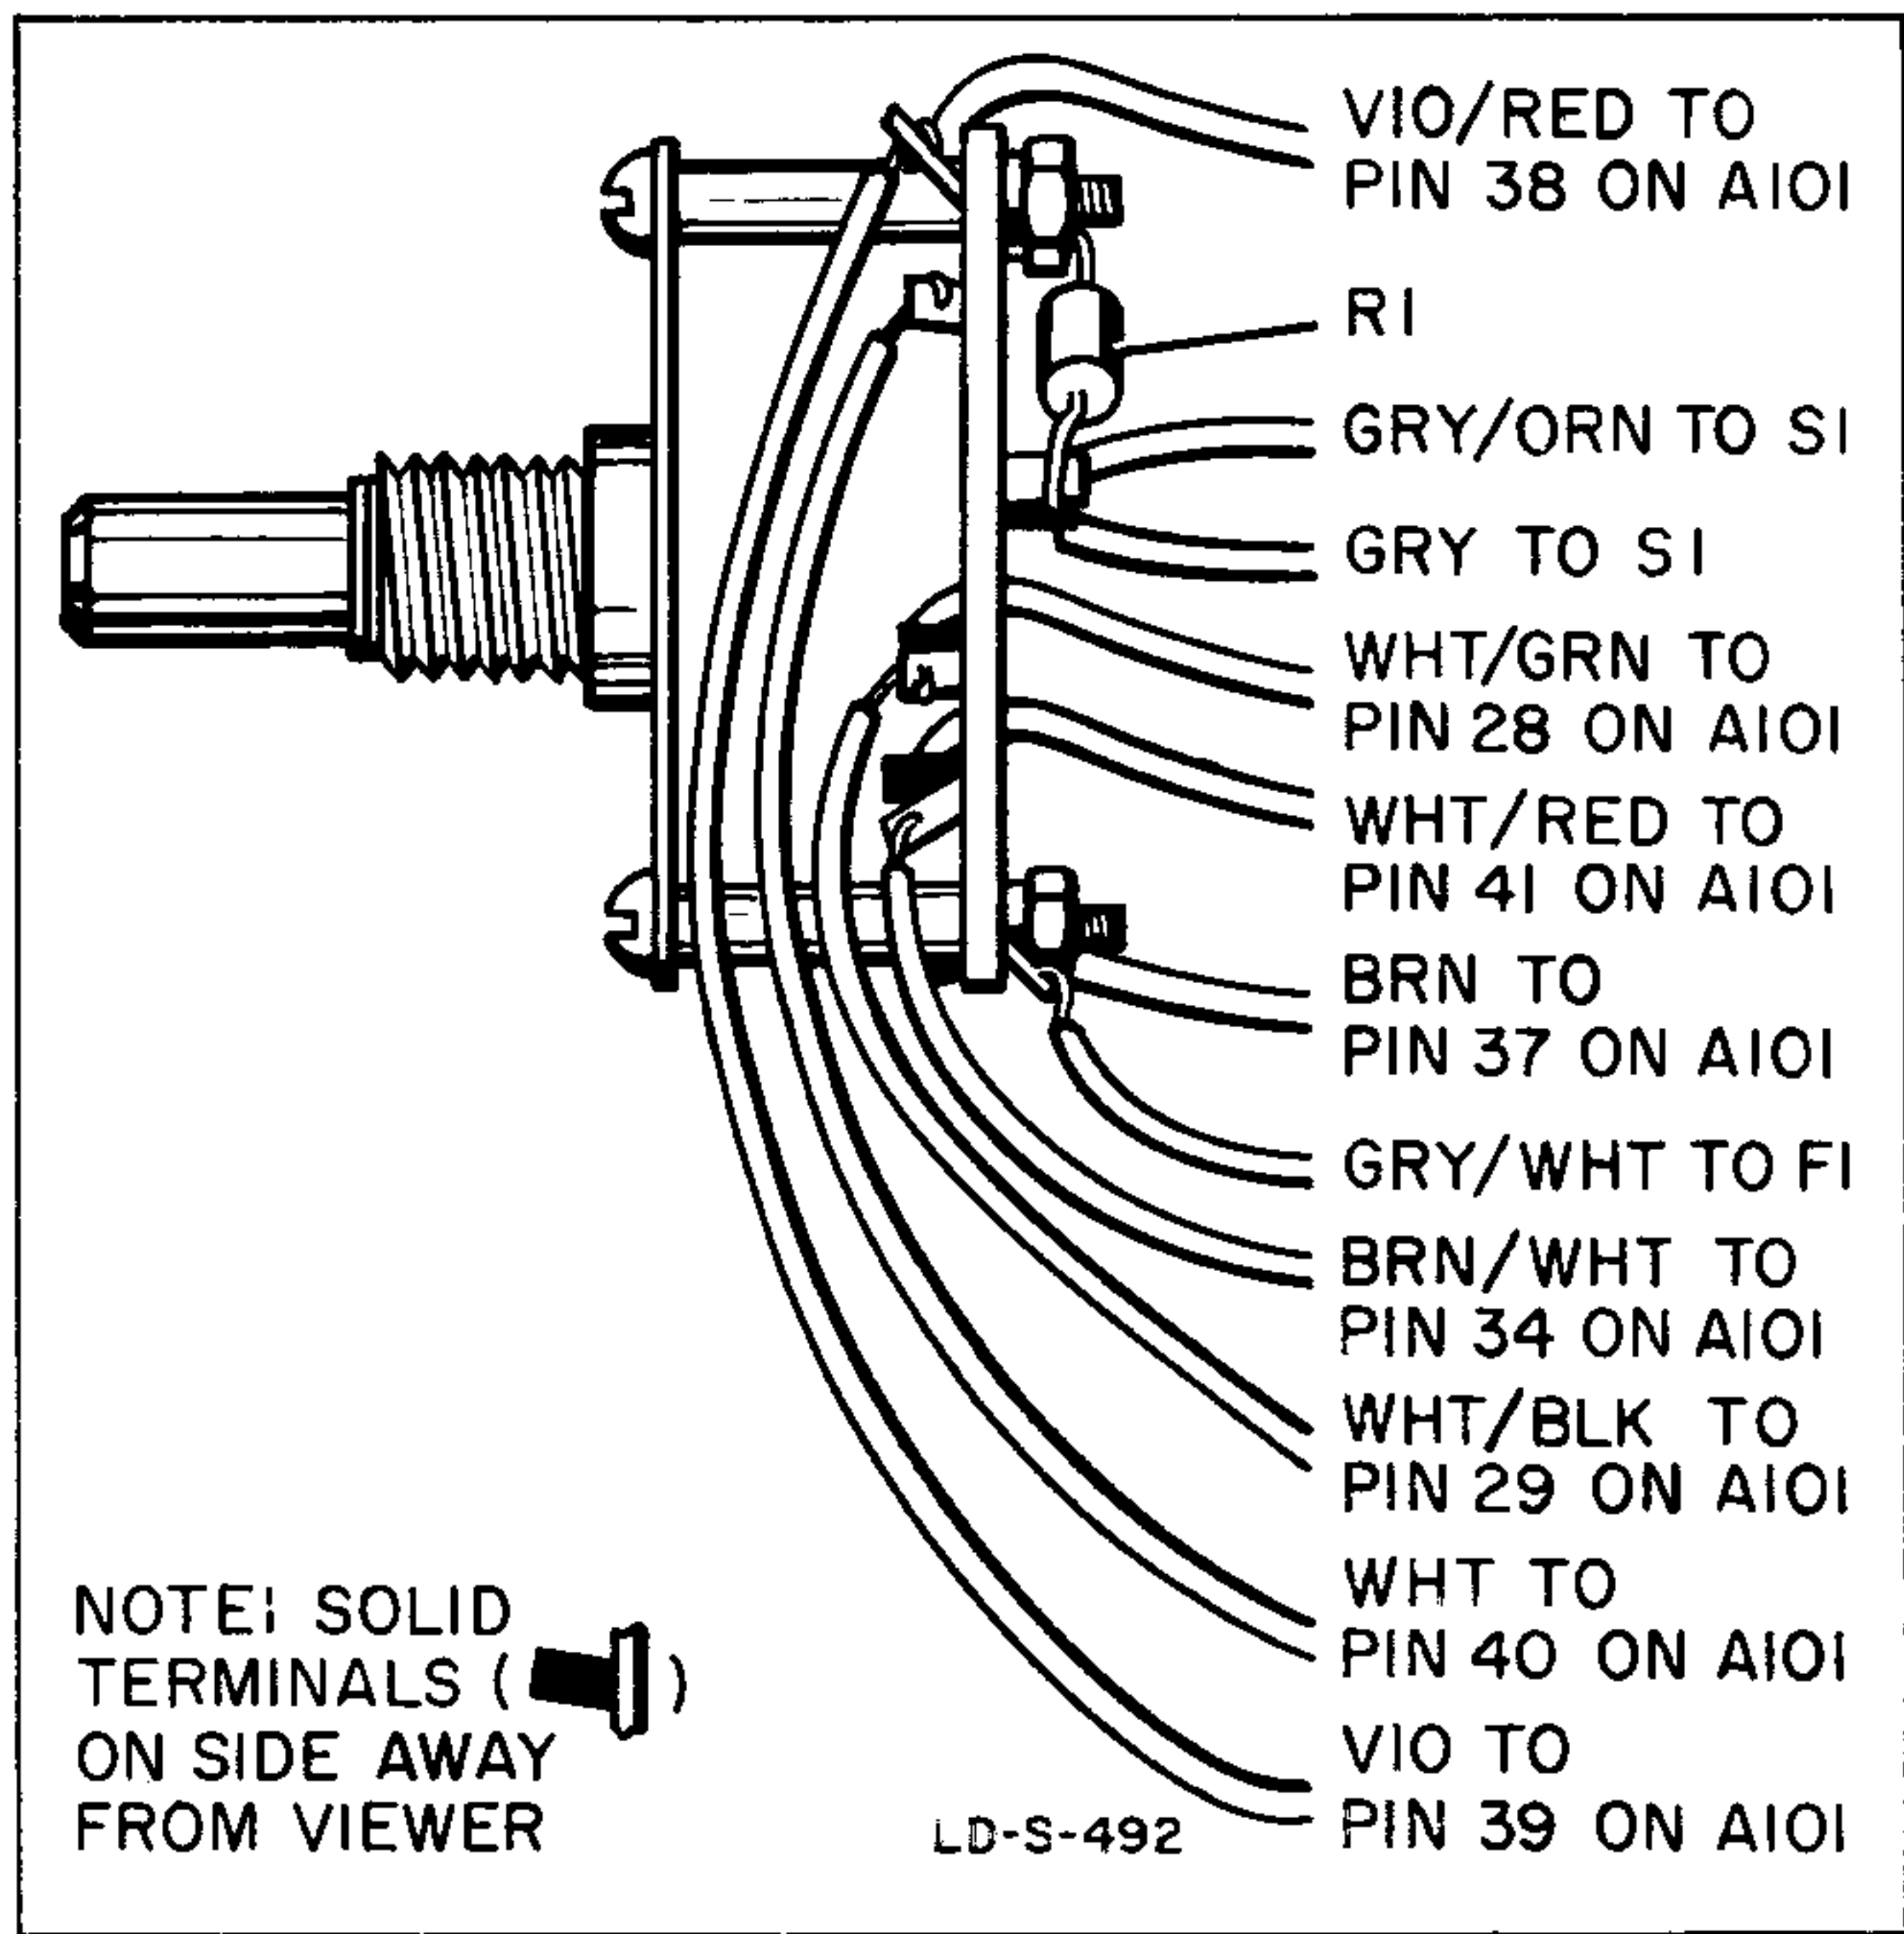

Figure 5-8. S2 POWER Switch
- Unsolder connecting wires. Mark each to indicate which lugs to resolder wires to. See figure 5-8 for wire colors and connections for POWER switch.